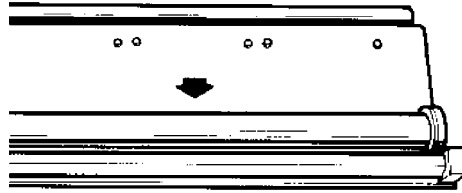

Fig.55
4. Clean & grease the sliding bar once a month (fig.55).